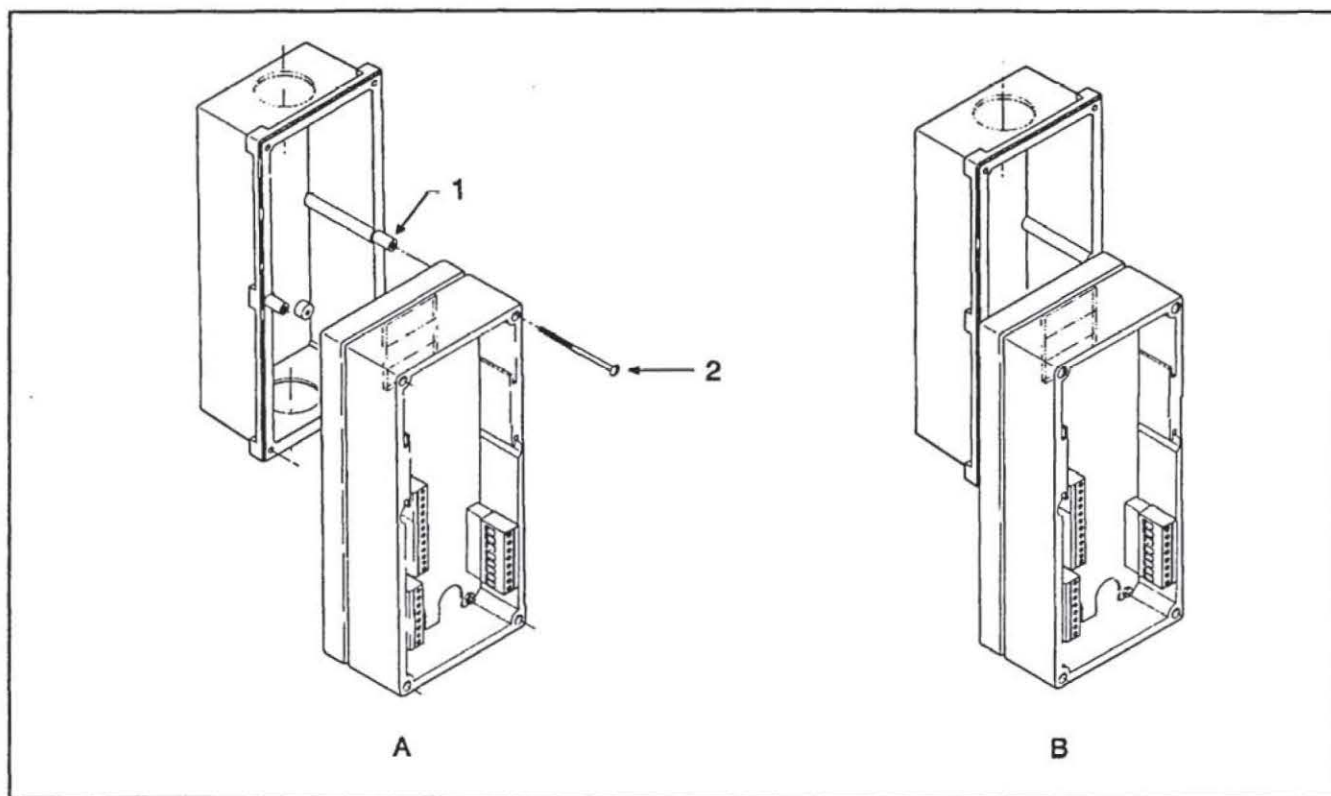

Figure 3.7 - Temporary mounting of front assembly
d. Push the two screws through the top two front assembly holes (Figure 3.7, view A).
e. Insert the screws into the two back enclosure stand-offs (Figure 3.7, view A).
f. Tighten the two screws to secure the front assembly to the back enclosure (Figure 3.7, view B).
- d. Push the two screws through the top two front assembly holes (Figure 3.7, view A).
- e. Insert the two screws into the two back enclosure stand-offs (Figure 3.7, view A).
- f. Tighten the two screws to secure the front assembly to the back enclosure (Figure 3.7, view B).